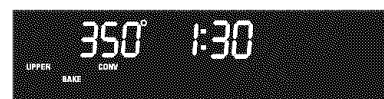

Figure 3
2. Press . "350" will appear, "UPPER", "BAKE" and "CONV" will flash in the display (Figure 3).